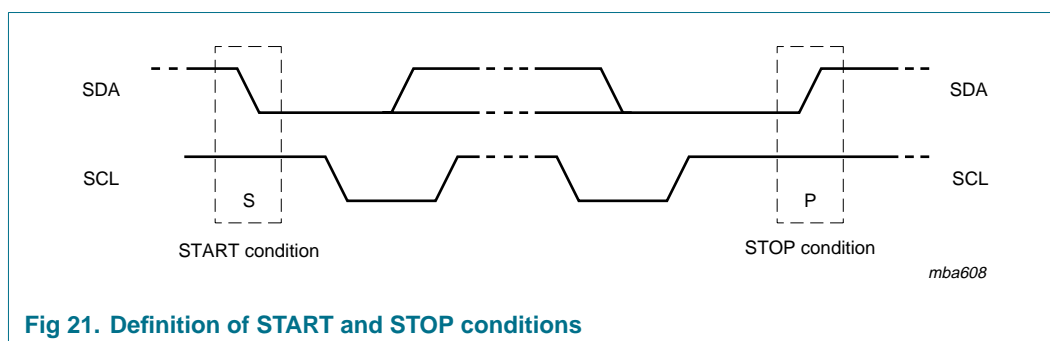

Fig 21. Definition of START and STOP conditions
Both data and clock lines remain HIGH when the bus is not busy. A HIGH-to-LOW transition of the data line while the clock is HIGH is defined as the START condition (S). A LOW-to-HIGH transition of the data line while the clock is HIGH is defined as the STOP condition (P) (see Figure 21).